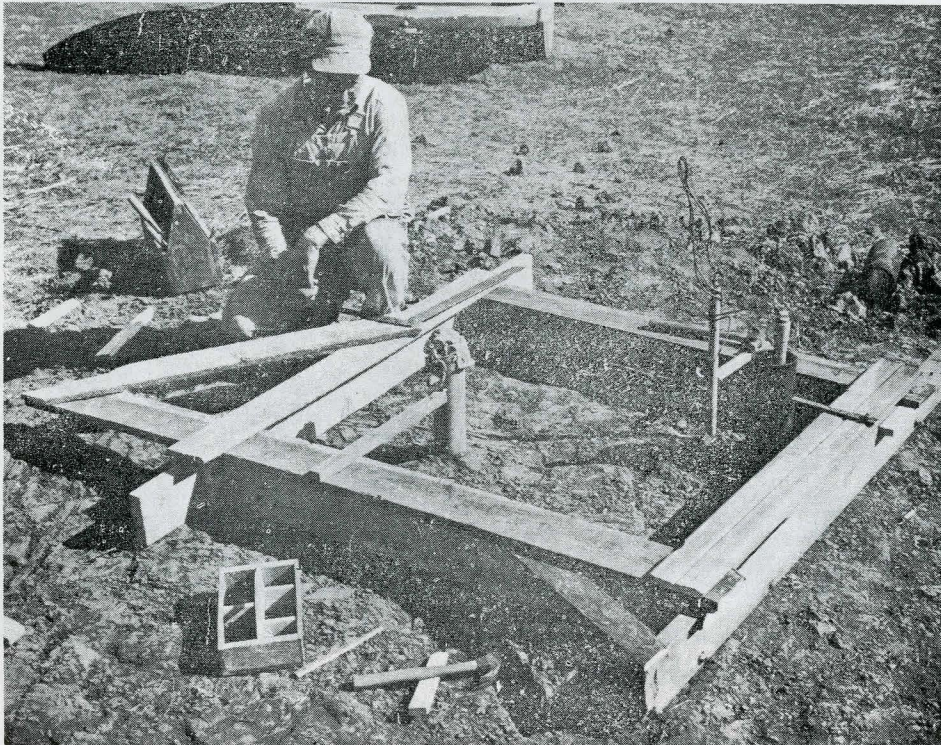

Figure No. 5 Template nailed to forms to aid in positioning forms and locating trench for foundation wall.
9. Set forms so that top of well casing will be 6 inches above the finished floor. See Figure No. 2. Template can be used for positioning forms as shown in Figure No. 5.